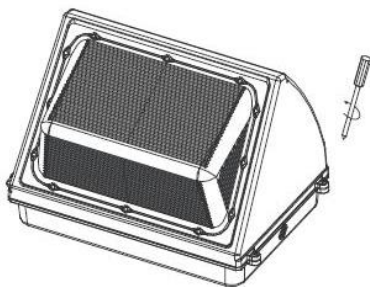

Figure 1
3. Loosen the screws on the side of the fixture. (Figure 1)